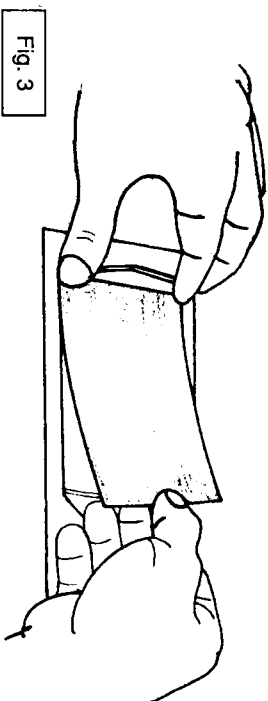

Fig. 3
3. Place the left index finger and thumb inside the left corners of the window as shown in Fig. 3, and slide the left corners of the film under the index finger and thumb until the film stops. At this point, the left edge of the film should be securely tucked under the left inner window frame (F).